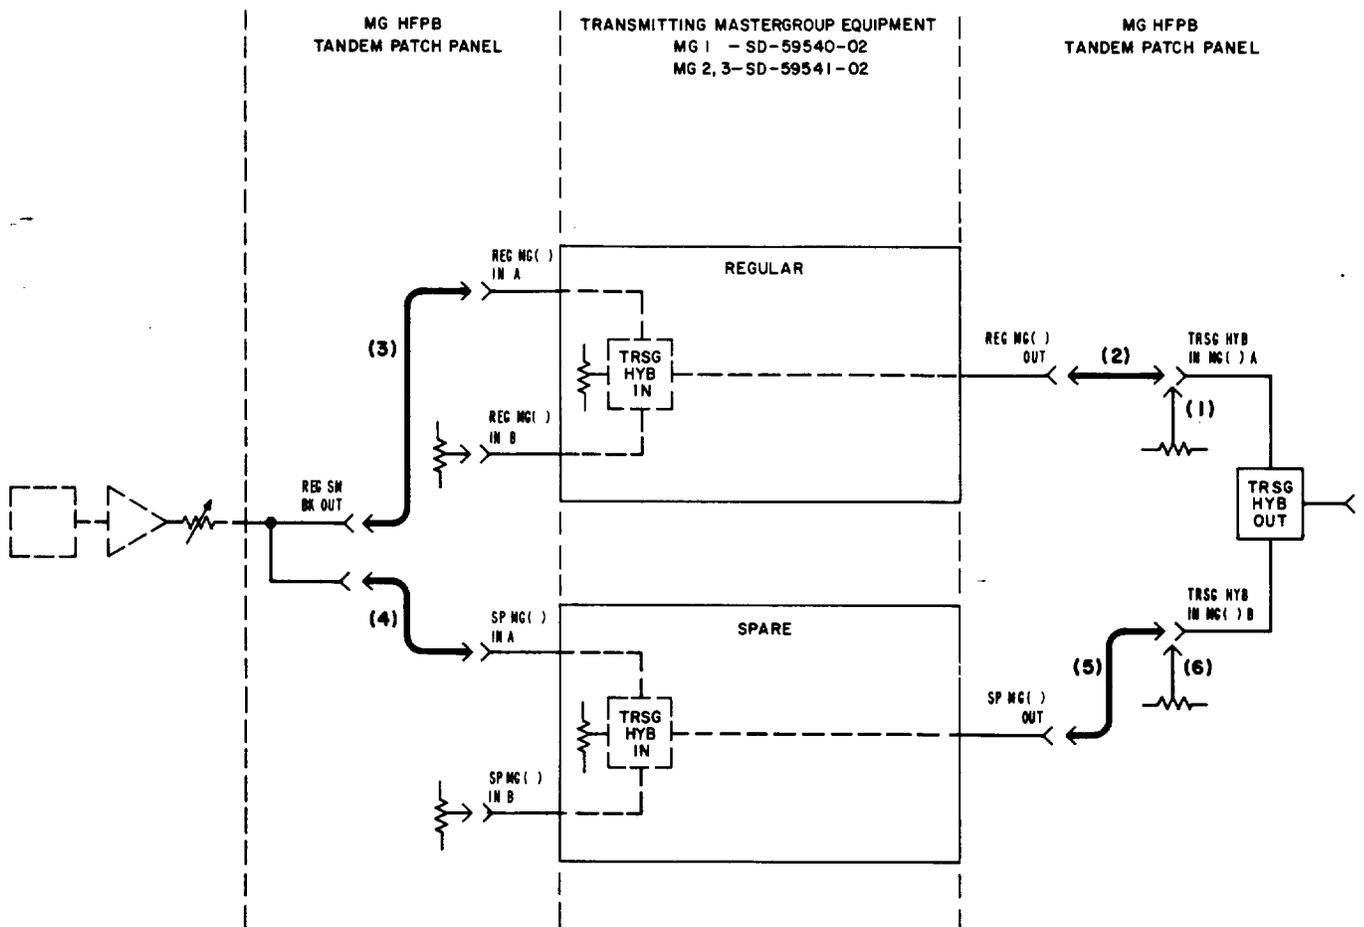

Fig. 4—Restoring Regular Equipment To Service—Patching Procedure
(a) Remove the 358B plug (75-ohm termination) from the TRSG HYB IN MG() A jack [patch (1), Fig. 4].
(b) Insert a 372A plug (through connection) into the TRSG HYB IN MG() A and REG MG() OUT jacks [patch (2), Fig. 4].
(c) Insert a 372A plug into the REG MG() IN A and multiple REG SM BK OUT jacks [patch (3), Fig. 4].
(a) Remove the 372A plug from the SP MG() IN A and multiple REG SM BK OUT jacks [patch (4), Fig. 4].
15	<p>Requirement: Normal power indication for the monitoring point</p> <p>(c) Remove the 372A plug from the TRSG HYB IN MG() B and SP MG() OUT jacks [patch (5), Fig. 4].</p> <p>(d) Insert a 358B plug into the TRSG HYB IN MG() B jack [patch (6), Fig. 4].</p> <p>Disconnect the 1-kHz test tone and the RTE.</p>